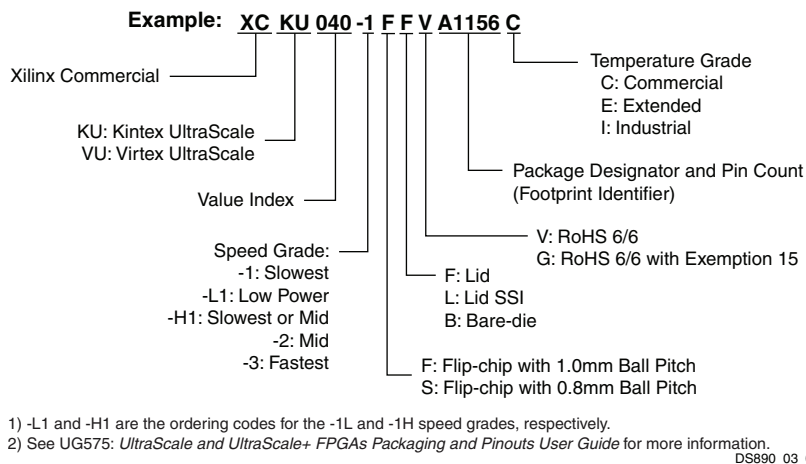
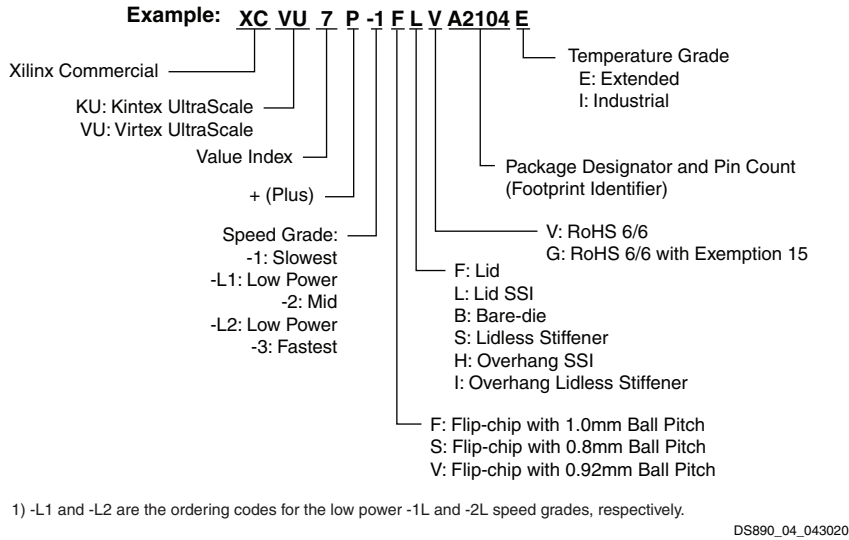
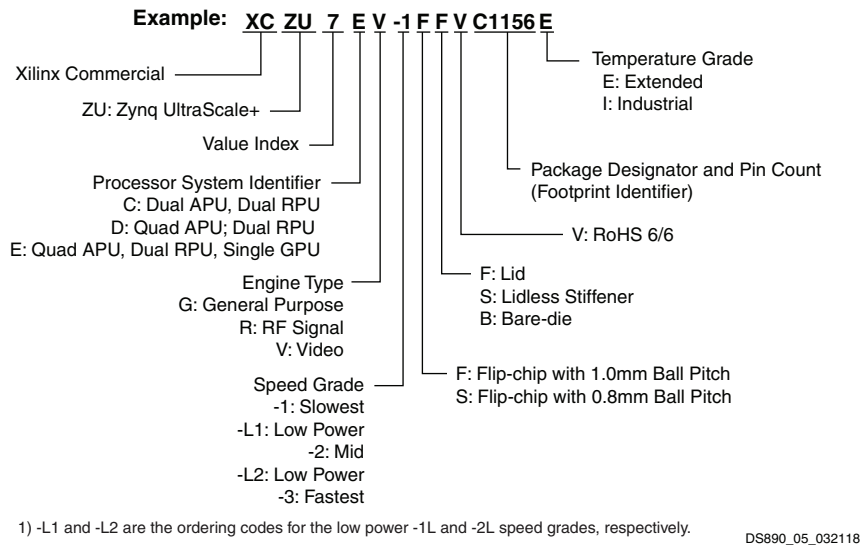

Figure 3: Kintex UltraScale and Virtex UltraScale FPGA Ordering Information
Figure 4: UltraScale+ FPGA Ordering Information
Figure 5: Zynq UltraScale+ MPSoC and RFSoc Ordering Information
The ordering information shown in Figure 3 applies to all packages in the Kintex UltraScale and Virtex UltraScale FPGAs. Refer to the Package Marking section of UG575, UltraScale and UltraScale+ FPGAs Packaging and Pinouts User Guide for a more detailed explanation of the device markings.
The ordering information shown in Figure 4 applies to all packages in the Kintex UltraScale+ and Virtex UltraScale+ FPGAs, and Figure 5 applies to Zynq UltraScale+MPSoCs and RFSoCs.
| 11/15/2017 | 3.1 | Updated Table 20 with FSVE1156, FSVG1517, and FSVF1760 packages. Updated Figure 5 . |
| 10/03/2017 | 3.0 | Added Zynq UltraScale+ RFSoc information throughout document. Updated General Description , Table 1 , RF Data Converter Subsystem Overview , Soft Decision Forward Error Correction (SD-FEC) Overview , Processing System Overview (including Table 2), Configuration , Encryption , and System Monitoring , Table 23 , Table 25 , and Figure 5 . Updated UltraRAM ZU4CG/ZU4EG/ZU4EV values in Table 13 , Table 15 , Table 17 . Added Table 19 , Table 20 , RF Data Converter Subsystem Overview , and Soft Decision Forward Error Correction (SD-FEC) Overview . Updated Figure 3 , Figure 4 , and Figure 5 . |
| 06/03/2016 | 2.8 | Added Zynq UltraScale+ MPSoC CG devices: Added Table 2 . Updated Table 13 , Table 14 , Table 25 , and Figure 5 . Created separate tables for EG and EV devices: Table 15 , Table 16 , Table 17 , and Table 18 . Updated Table 1 , Table 3 , Table 5 and notes, Table 6 and notes, Table 7 , Table 9 , Table 12 , Processing System Overview , and Processing System (PS) details. |
| 02/17/2016 | 2.7 | Added Migrating Devices . Updated Table 4 , Table 5 , Table 6 , Table 12 , Table 13 , Table 14 , and Figure 4 . |
| 10/15/2015 | 2.4 | Updated Table 1 , Table 3 , Table 5 , Table 7 , Table 9 , and Table 13 with System Logic Cells. Updated Figure 3 . Updated Table 23 . |
| 09/29/2015 | 2.3 | Added A1156 to KU095 in Table 4 . Updated Table 5 . Updated Max. Distributed RAM in Table 9 . Updated Distributed RAM in Table 13 . Added Table 23 . Updated Table 25 . Updated Figure 3 . |
| 04/27/2015 | 2.1 | Updated Table 1 , Table 3 , Table 4 , Table 5 , Table 6 , Table 7 , Table 12 , Table 13 , Table 14 , Table 21 , I/O , Transceiver , PCIe , 100G Ethernet , and 150G Interlaken , Integrated Interface Blocks for PCI Express Designs , USB 3.0/2.0 , Clock Management , System Monitor , and Figure 3 . |
| 11/17/2014 | 1.5 | Updated I/O , Transceiver , PCIe , 100G Ethernet , and 150G Interlaken ; Table 1 ; Table 4 ; Table 7 ; Table 8 ; Table 21 ; Input/Output ; and Figure 3 . |
| 09/16/2014 | 1.4 | Updated Logic Cell information in Table 1 . Updated Table 3 ; I/O , Transceiver , PCIe , 100G Ethernet , and 150G Interlaken ; Table 7 ; Table 8 ; Integrated Block for 100G Ethernet ; and Figure 3 . |